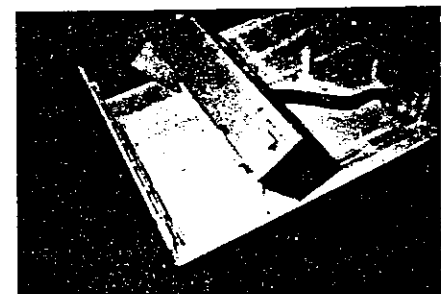

Fig. 2-15. Power Supply Removal
**2.7.1** To remove the power supply, move the assembly toward the left side of the case to disengage the bottom case feet. Lift the power supply from the bottom case. See Fig. 2-15.